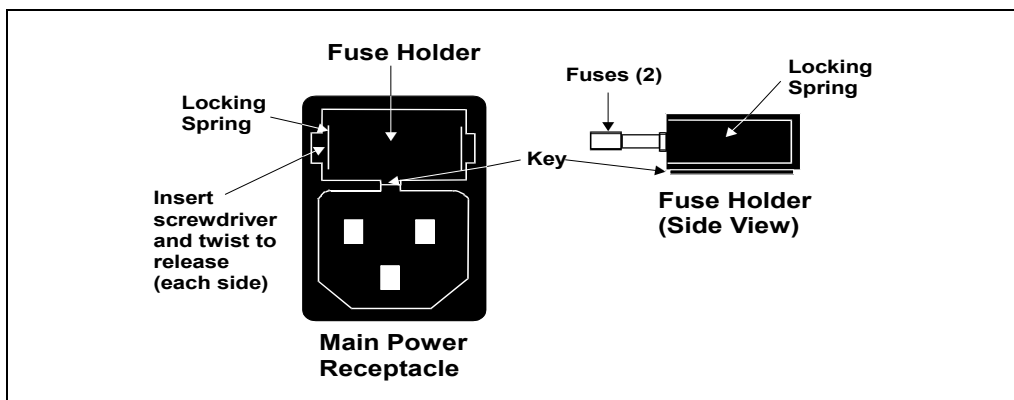

Figure 5-4. Main Power Fuse Holder
3. The fuse holder is part of the main power receptacle (see Figure 5-4). Note the recessed lock on each side of the fuse holder; now, using a small screwdriver (or your fingernails), push one of the locks toward the center to release it. The fuse holder pops out slightly when the lock is released. Repeat for the other lock.